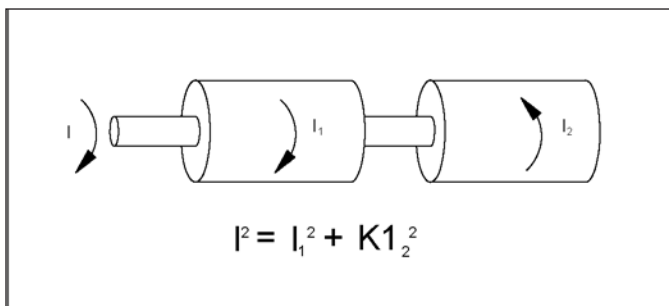

Figure 8.2 Torques from Sequence Currents.
- For analysis and understanding, consider the motor to have two tandem virtual rotors as shown in Figure 8.2. One is driven only by the positive sequence current  $I_1$ , which is symmetrical and balanced. The other is driven only by counter-rotating negative sequence current  $I_2$ , directly related to unbalanced current, and produces a proportional torque in the reverse direction. If perfect current balance and phase angle symmetry exists among the three phases,  $I_1$  would be the only component of line current squared, with no effect from the second rotor. This positive sequence component of current produces the motor output torque and work.